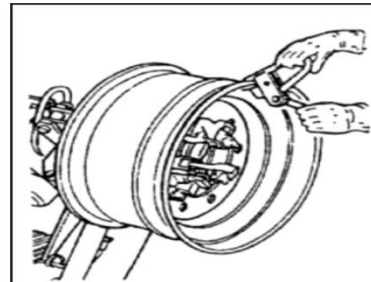

Fig 18
3) Clamp the pliers at the highest position of the external of the rim of the wheel (see Fig18)